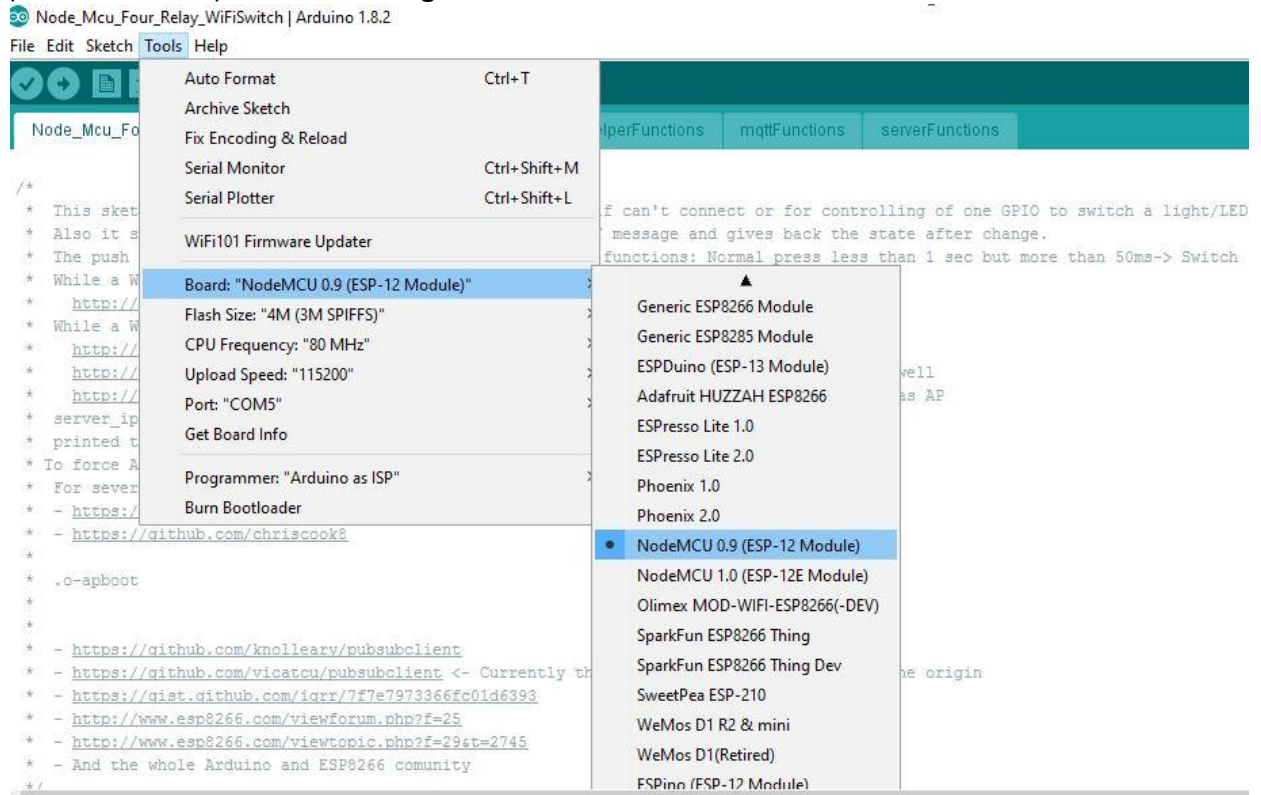

Figure 12: Board Selection
- Run the program. Refer to Figure 12.
5. Click on Tools Tab, move mouse pointer on “Board: xxxxxxxxxxxx” and click on “Arduino Uno” as shown in figure 12.